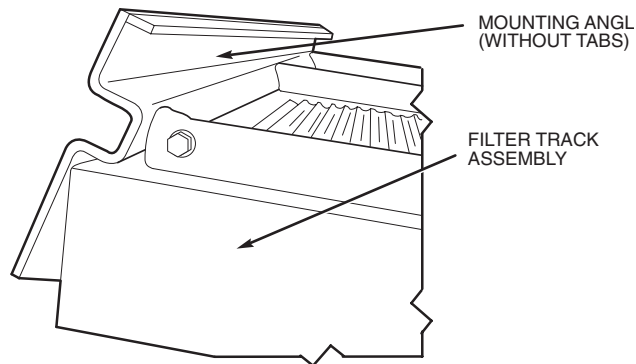

Fig. 43 — Mounting Angle (Without Tabs) Attached to Filter Track Assembly
13. Attach mounting angle (without tabs) to the assembled end of the filter track. See Fig. 43.